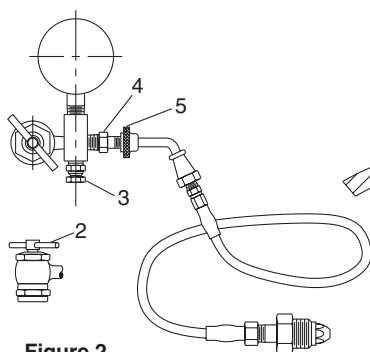

Figure 2
- (AA) Remove gas valve guard (A) and secondary seal (B) from the accumulator. Refer to Figure 2.
- (BB) Torque the gas valve to 9 ft-lbs + 1 (11.5 Nm + 1.3).
- (CC) On the charging device back the gas chuck (2) "T" handle all the way out (counterclockwise) before attaching the chuck to the Diaphragm accumulator.
- (DD) Make sure the bleed valve (3) is closed and tight.
- (EE) Making sure not to loop or twist the hose, attach the Swivel Connector (5) to the charging device gas valve (4) and tighten. (10-15 in lbs (11.5-17 cm kg))
- (FF) Turn the "T" handle (2) clockwise all the way. This action will depress the valve core.
- (GG) Crack open nitrogen bottle valve and **slowly** fill the accumulator until the button is seated on the fluid port opening, then the nitrogen supply may be fully opened. Shut off the nitrogen supply when gauge movement stops and indicates 110% of desired pre-charge level.
- (HH) Let the pre-charge set for 1 to 2 minutes. This will allow the gas temperature to stabilize. Slowly open bleed valve (3) until the proper pressure is reached.
- (II) When finished precharging, turn "T" handle (2) counterclockwise fully, then open the bleed valve (3) to release residual gas.
- (JJ) Hold the gas valve from turning and remove the charging device.
- (KK) Install secondary seal (B) and valve guard (A).